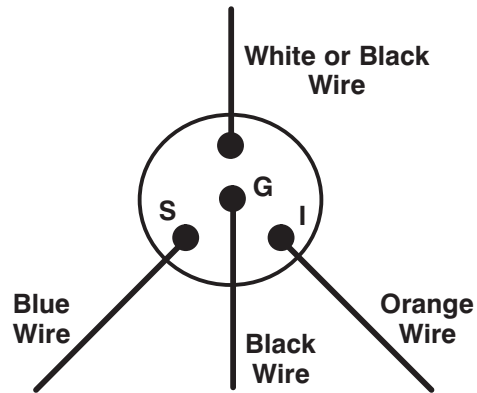

Figure 6
6. Using Figure 6, connect the wires from the harness to their corresponding terminals of the the back of the tachometer with hex nuts.